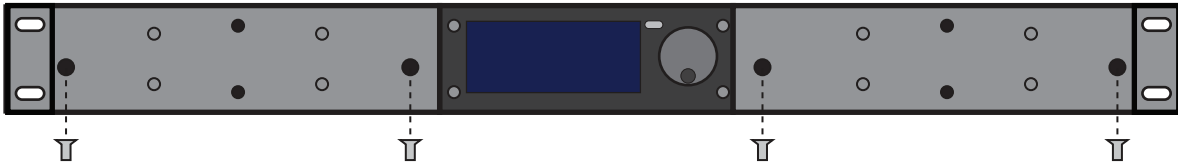

Figure 2.9 Screw Locations on Each Power Supply
3. Each power supply includes two screws that must be removed before the power supply can be removed from the chassis. Refer to **Figure 2.9** for the screw locations on each power supply.